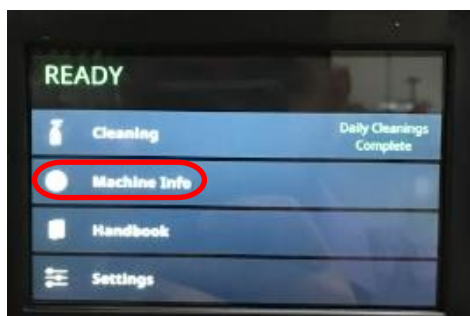

Figure I10: Home Screen with Settings Circled.
- Navigate to Machine Info from the home screen to see the pressure reading on the Touch Screen. **See Figure I10 and Figure I11.**